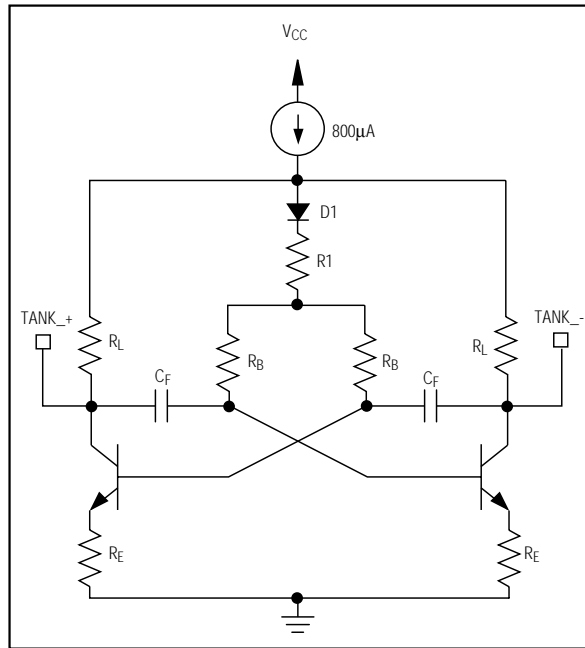

Figure 4. Voltage-Controlled Oscillators
The LO signal for downconversion is provided by a voltage-controlled oscillator (VCO) consisting of an on-chip differential oscillator, and an off-chip high-Q resonant network. Figure 4 shows a simplified schematic of the VCO oscillator. Multiband operation is supported by the MAX2306 with dual VCOs. VCO\_H and VCO\_L are selectable with the MODE pin or the VCO\_SEL (VS) control bit. They oscillate at twice the desired LO frequency. For applications requiring an external LO, the VCOs can be bypassed with the VCO\_BYP (VB) control bit.